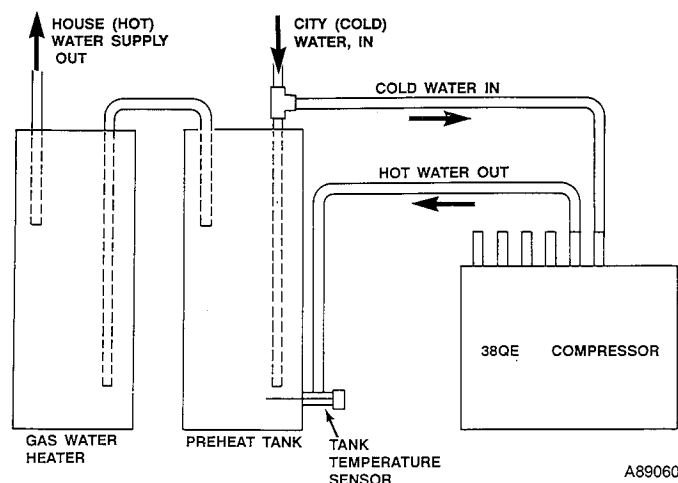
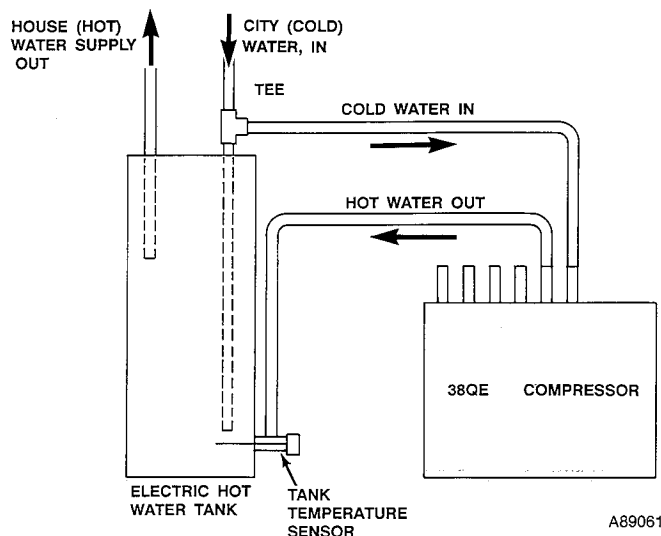

Fig. 7a—Installation with Conventional Electric Water Heater
Fig. 7b—Installation with Gas Water Heater and Preheat Tank
Installation of the 38QE with a conventional electric water heater is shown in Fig. 7a. Installation with a gas water heater and preheat tank is shown in Fig. 7b.
sor. The tank water temperature sensor is located within the drain fitting of the tank. The fitting location is shown in Fig. 7a,b. The detail for installing the sensor is shown in Fig. 8.
3. Remove drain valve from bottom of tank which requires sensor (Fig. 7a or 7b). Install pipe nipple and tee and install tank water temperature sensor as shown in Fig. 8.